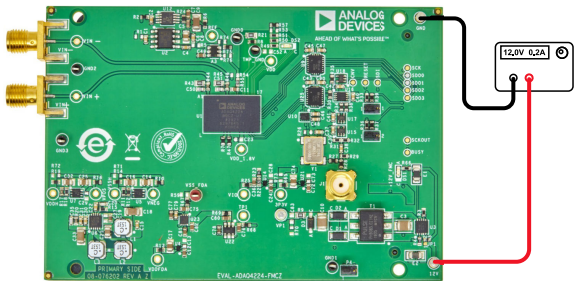

Figure 3. EVAL-ADAQ4224-FMCZ External Supply Connection
4. Connect the +12 V bench power supply to the 12 V test point on the EVAL-ADAQ4224-FMCZ board (see Figure 3). Connect the bench supply ground to the GND test point, as shown in Figure 3.